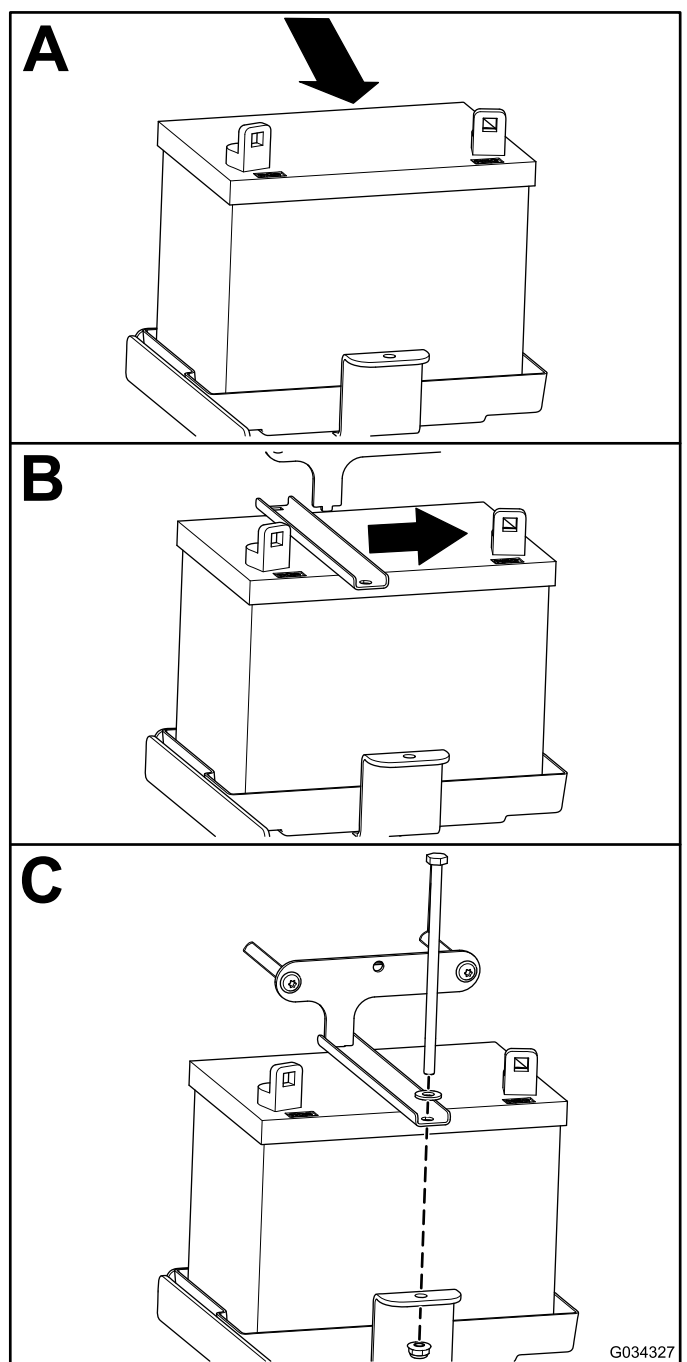

Figure 48
1. Install the battery as shown in Figure 48.